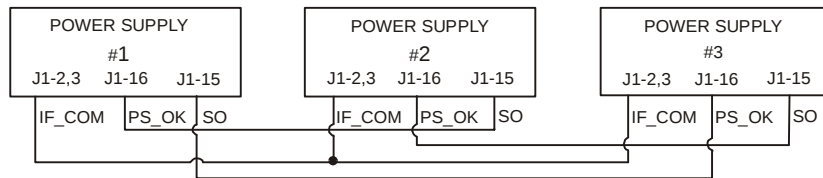

Fig.5-6: Daisy-chain connection
3. Daisy Chain Connection: (See Fig. 5-6)
6. Connect J1-2 (or J1-3) common to all supplies (See Fig. 5.6).
Fig. 5-6 shows connection of three units, however, the same connection method applies to systems with a larger number of units.